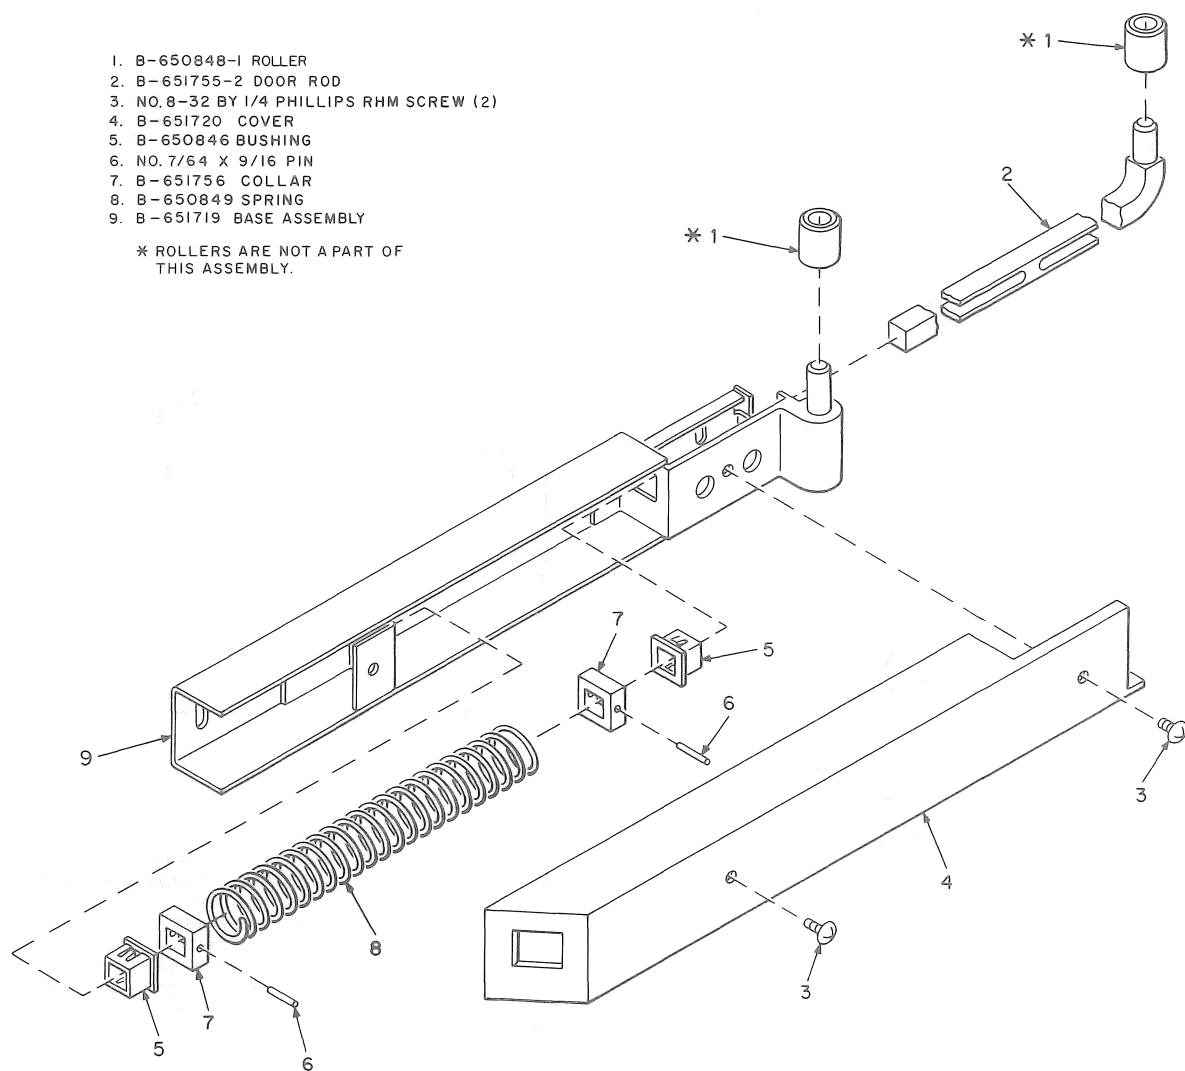
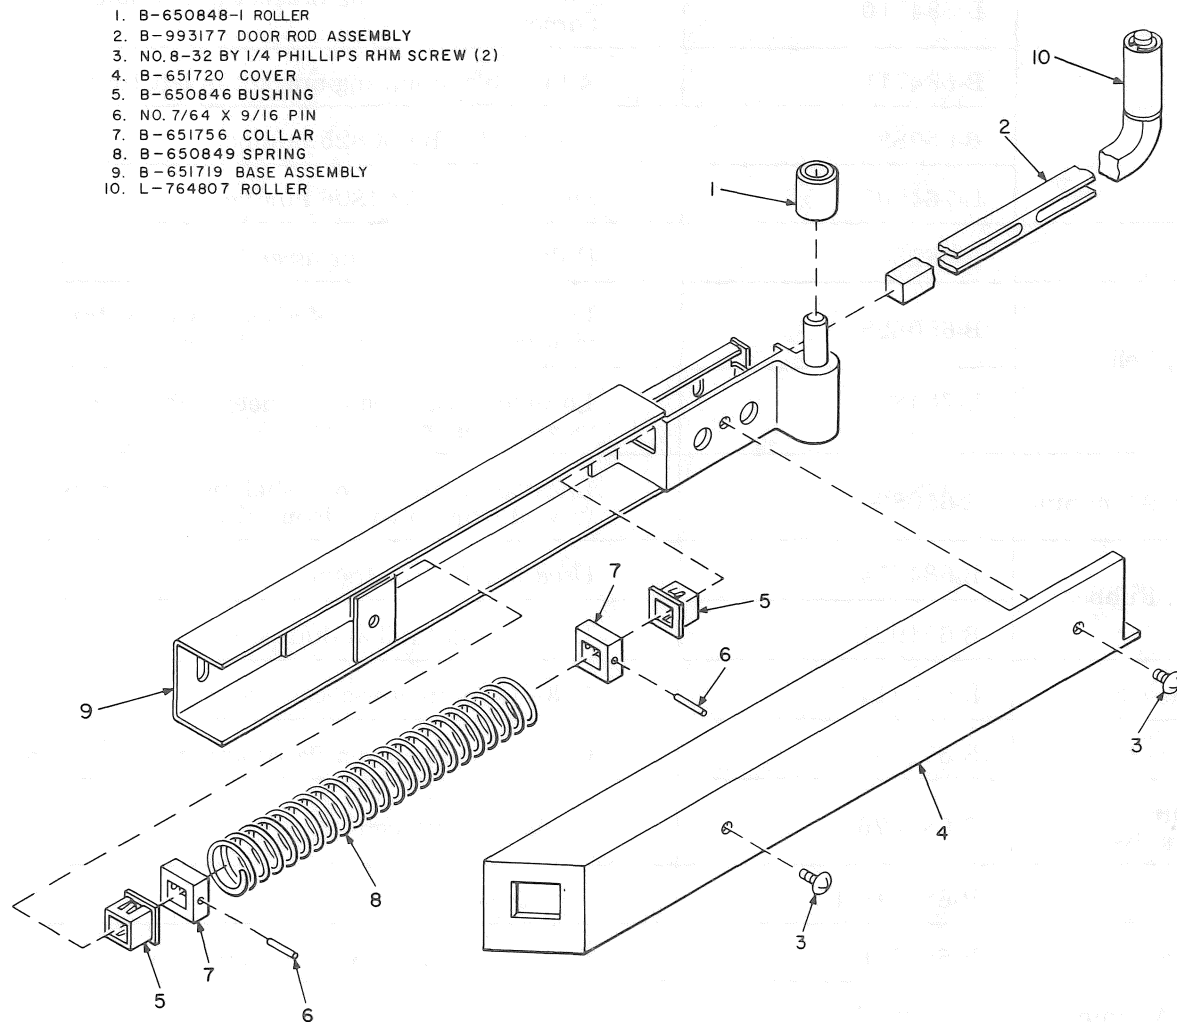

Fig. 26—B-651721-2 Door Guide Assembly
Fig. 27—B-993172-2 Door Guide Assembly
4.32 The KS-19580 booth will have either a B-651721-2 short-roller door guide assembly (Fig. 26) or a B-993172-2 long-roller door guide assembly (Fig. 27).
- (a) Remove two screws and B-651720 cover (Fig. 26 and 27.)